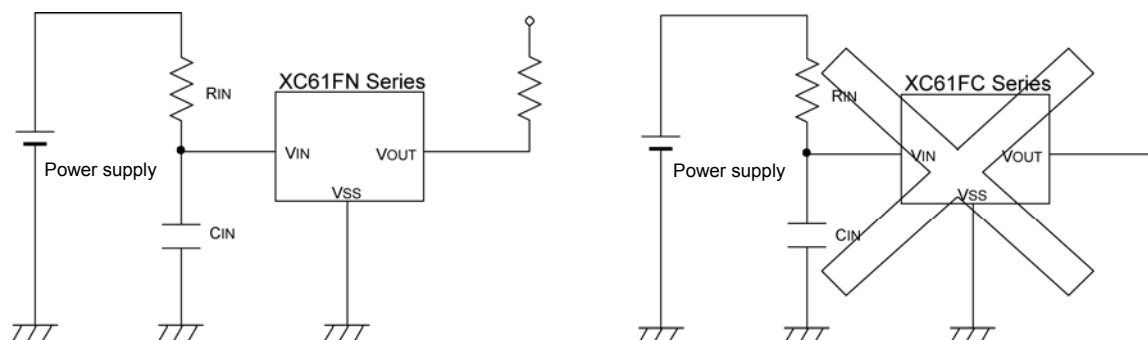

Figure 1. When using an input resistor
2. When a resistor is connected between the  $V_{IN}$  pin and the power supply with CMOS output configurations, oscillation may occur as a result of voltage drops at  $R_{IN}$  if load current ( $I_{OUT}$ ) exists. It is therefore recommend that no resistor be added. (refer to Oscillation Description (1) below)
3. When a resistor is connected between the  $V_{IN}$  pin and the power supply with CMOS output configurations, irrespective of N-ch output configurations, oscillation may occur as a result of through current at the time of voltage release even if load current ( $I_{OUT}$ ) does not exist. (refer to Oscillation Description (2) below)
4. If a resistor ( $R_{IN}$ ) must be used, then please use with as small a level of input impedance as possible in order to control the occurrences of oscillation as described above. Further, please ensure that  $R_{IN}$  is less than  $10k\Omega$  and that  $C_{IN}$  is more than  $0.1\mu F$ , please test with the actual device. However, N-ch open drain output only. (Figure 1).